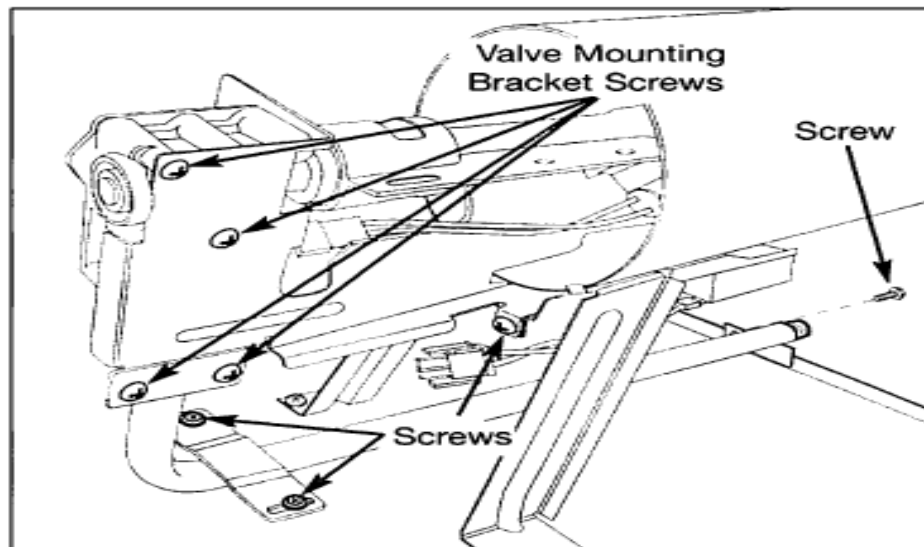

Figure 4-50.
3. Using a #2 square bit screwdriver, extract the screw from the rear of the unit base securing the manifold mount to the unit base. (See Figure 4-50)
4. Extract the two screws from the manifold mount located beneath the combustion tube. (See Figure 4-50)
5. Extract the screw from the bent down tab at the entrance of the combustion tube. (See Figure 4-50)
8. Extract the four screws securing the gas valve mounting bracket to the gas valve and manifold. Remove the gas valve mounting bracket from the assembly. (See Figure 4-50)